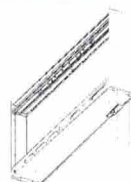

FIG. 3
- If side covers are installed prior to recessed installation, remove the side covers by removing the screws (FIG. 3 and 4).